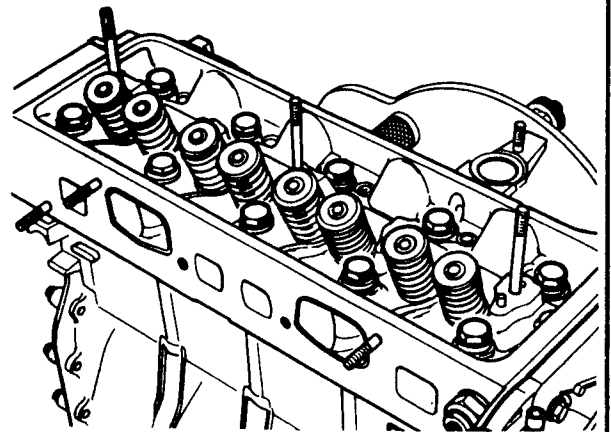

Fig.1.20 Cylinder head bolts on type 697 and 821 engines
- 5 Unscrew the cylinder head bolts, Fig.1.20. Unscrew them a turn or two at a time working from the centre bolts outwards to avoid any possibility of distortion to the head.